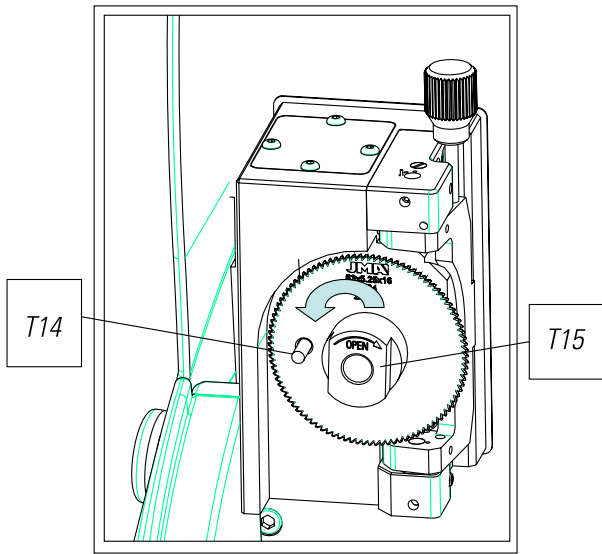

FIG. 31
- 3) Introduce the blocking rod (T14), which is in the accessory box (Fig. 31)